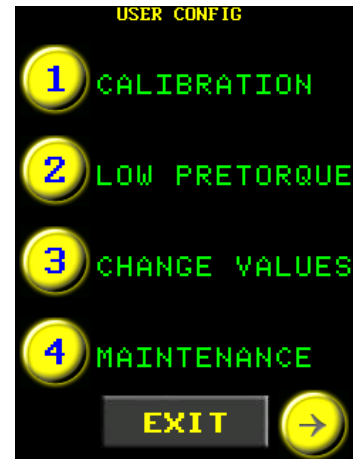

Figure 6-2: User Configuration Menu
3. Select "Calibration" from the User Configuration Menu (Figure 6-2).